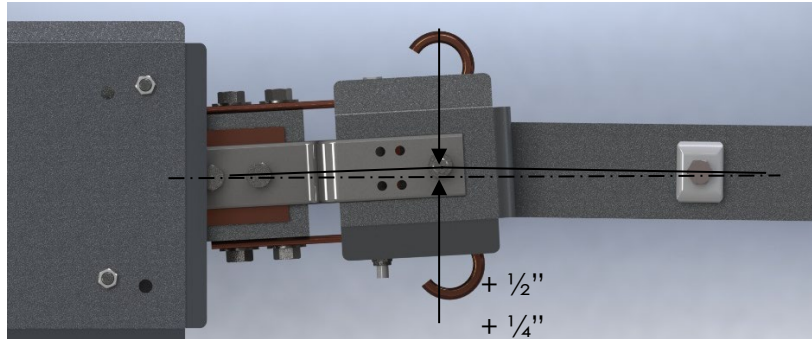

Figure 11: Left-handed Switch Blade Over Toggle
- 2) The switch blade over toggle should be between  $\frac{1}{4}$ " and  $\frac{1}{2}$ ". See Figure 11. If necessary, use the live parts close position stop bolt to adjust the over toggle.